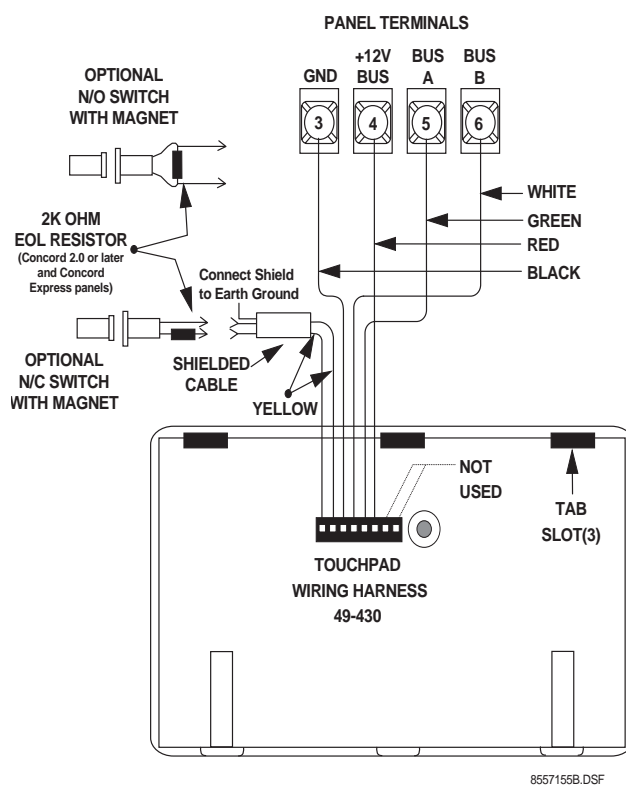

Figure 4. Wiring the Touchpad to Concord and Concord Express Panels
1. Connect the touchpad wiring to the panel terminals as shown in Figure 4. Wire multiple touchpads in parallel.
2. If desired, connect an optional hardwire switch to the yellow touchpad wires as shown in Figure 4.
Concord Express Systems- Wire a 2K ohm EOL resistor (49-467) in series with normally closed switches and in parallel with normally open switches (see Figure 4).
Concord Systems with software version 2.0 or newer- Wire a 2K ohm EOL resistor (49-467) in series with normally closed switches and in parallel with normally open switches (see Figure 4).